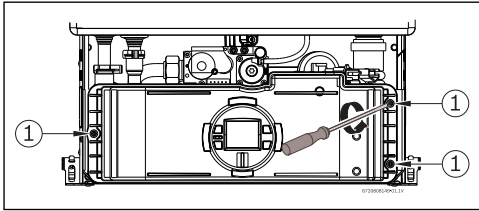

Fig. 4 Control unit front
- ▶ Remove three Phillips screws on front of control unit (Fig. 4, pos. 1).